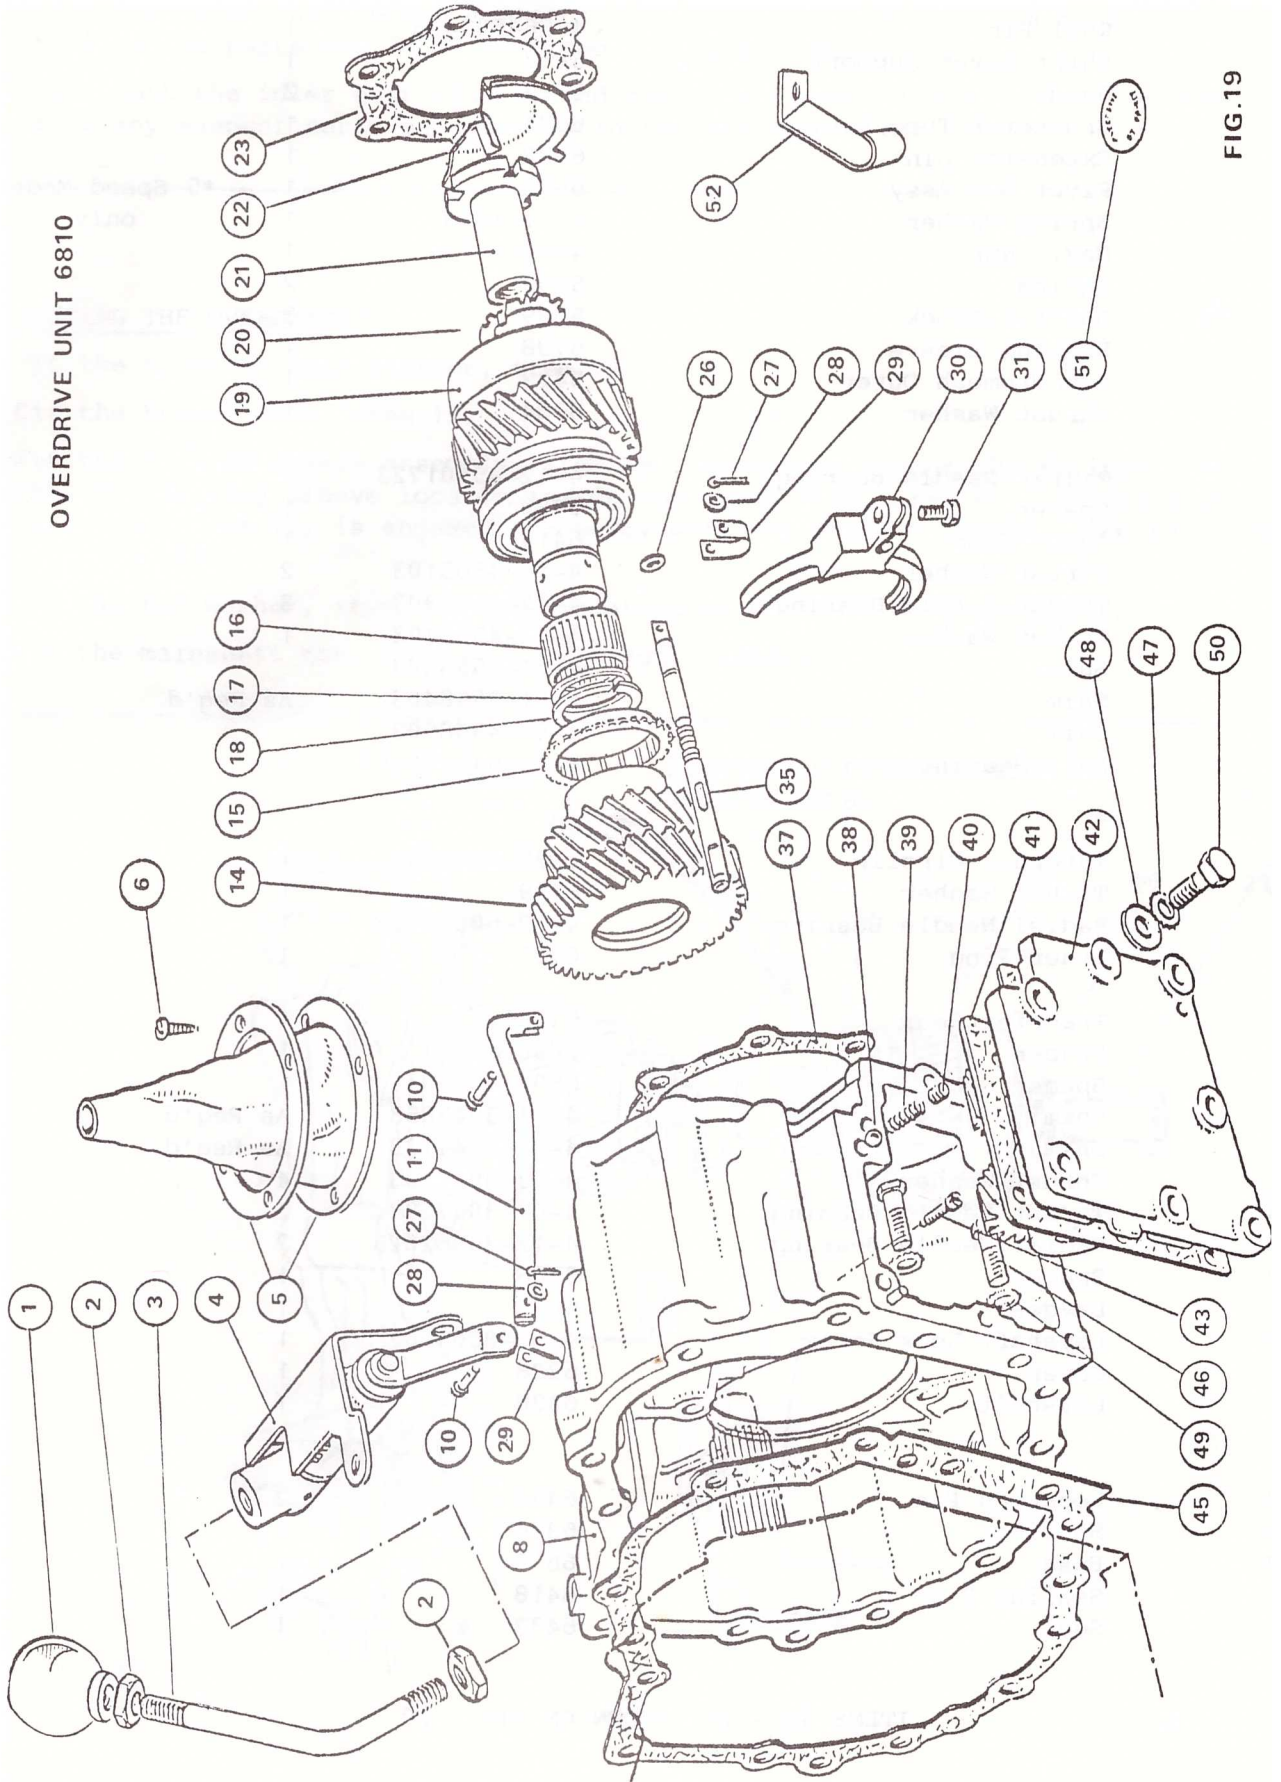

FIG.19
See also Figs. 19 and 20.
Temporarily connect the end of the link rod, item 11, to the selector shaft, item 35, ref. fig. 19, using the clevis pin, item 10.
Slide the grommet and retaining plate, item 5, onto the shift lever, item 3. Lightly press the grommet onto the service hole cover. Move the shift lever backwards and forwards while simultaneously adjusting the grommet position. When the position is found where the grommet will not pull on the shift lever, fit the four self tapping screws, item 6, using a 3.2 mm (1/8") diameter twist drill. Ref. fig. 19.
ITEMS 1-52 SHOWN ON FIG.19
Assemble as shown, see also fig. 19 and 20.